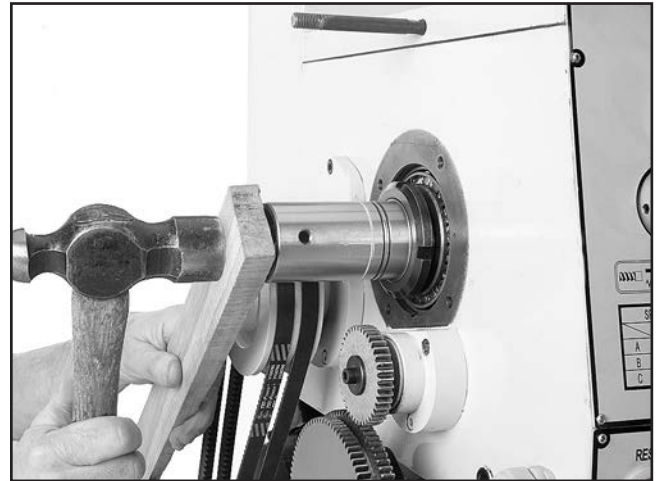

Figure 103. Example of introducing detectable end-play.
7. Place a wooden block over the outboard end of the spindle tube (see **Figure 103** for an example) and hit it soundly with a small sledge or heavy dead blow hammer.